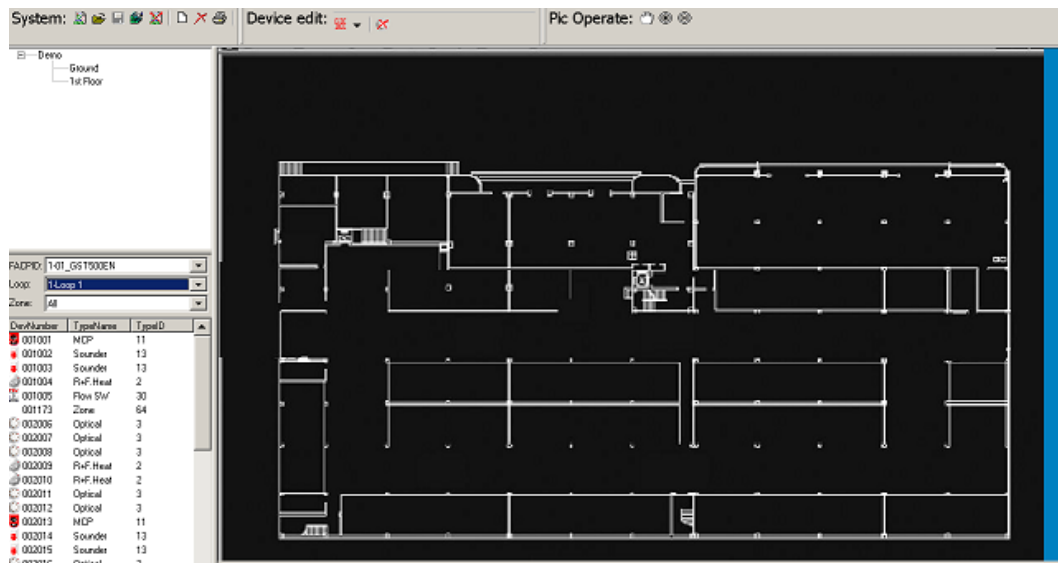

Fig. 4-6
**<Backpicture>**: The background picture can be any type of popular picture type, normally converted from AutoCAD project drawing. The picture size should fit the screen resolution (Fig. 4-6).